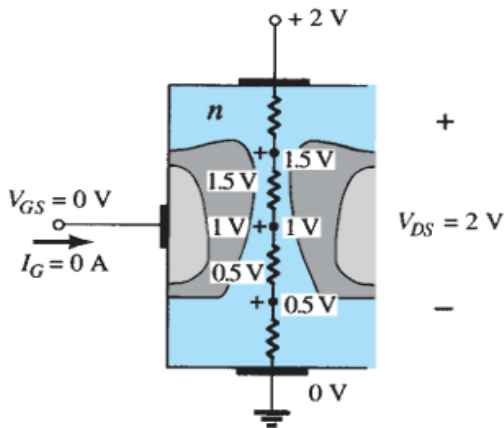

Figure 4: Varying reverse-bias potentials across the p-n junction of an n-channel JFET.
- The reason for the change in width of the region is explained with the help of Fig. 4.
- Assuming a uniform resistance in the n-channel, we can break down the resistance of the channel into the divisions appearing in Fig. 4.
- Thus, the greater the applied reverse bias, the wider is the depletion region—hence the distribution of the depletion region as shown in Fig. 4.